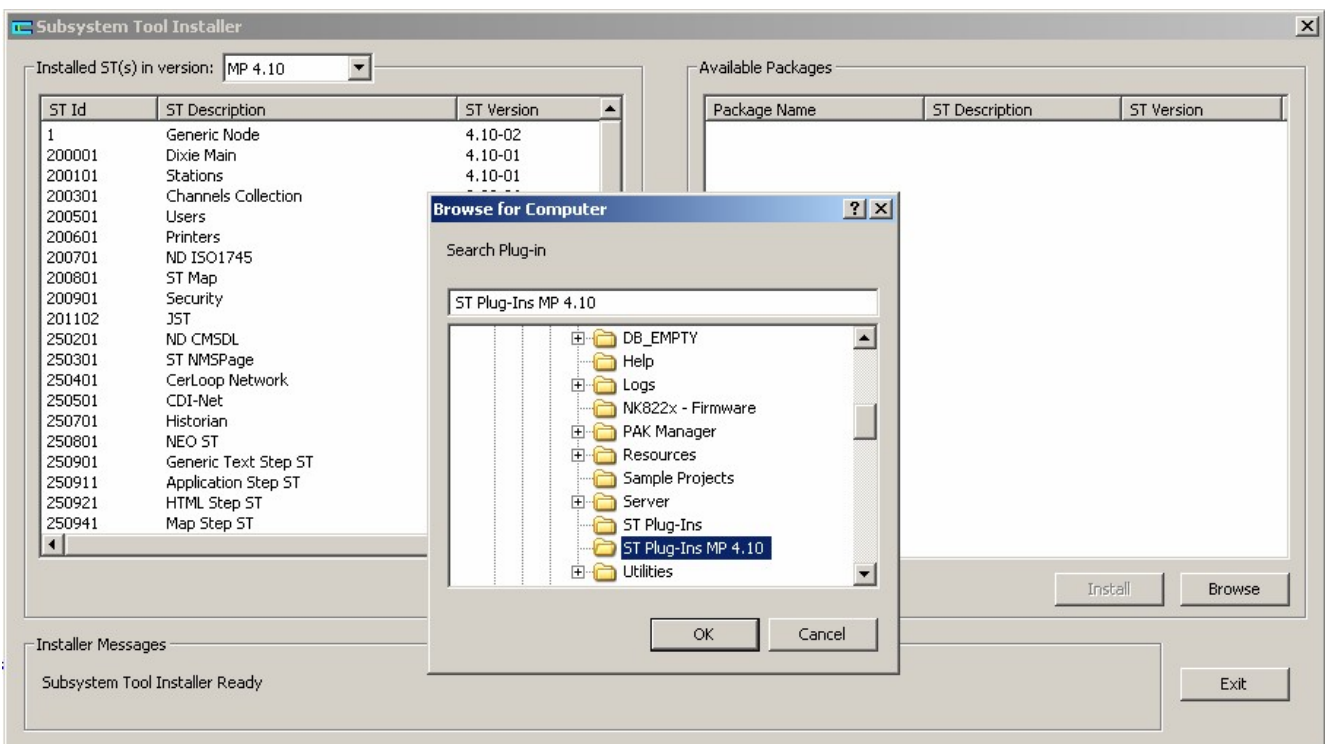

Fig 5 Installing the Composer Plug-ins
2. In the right pane, select “Browser” and locate the Plug-in folder (see Fig 5).